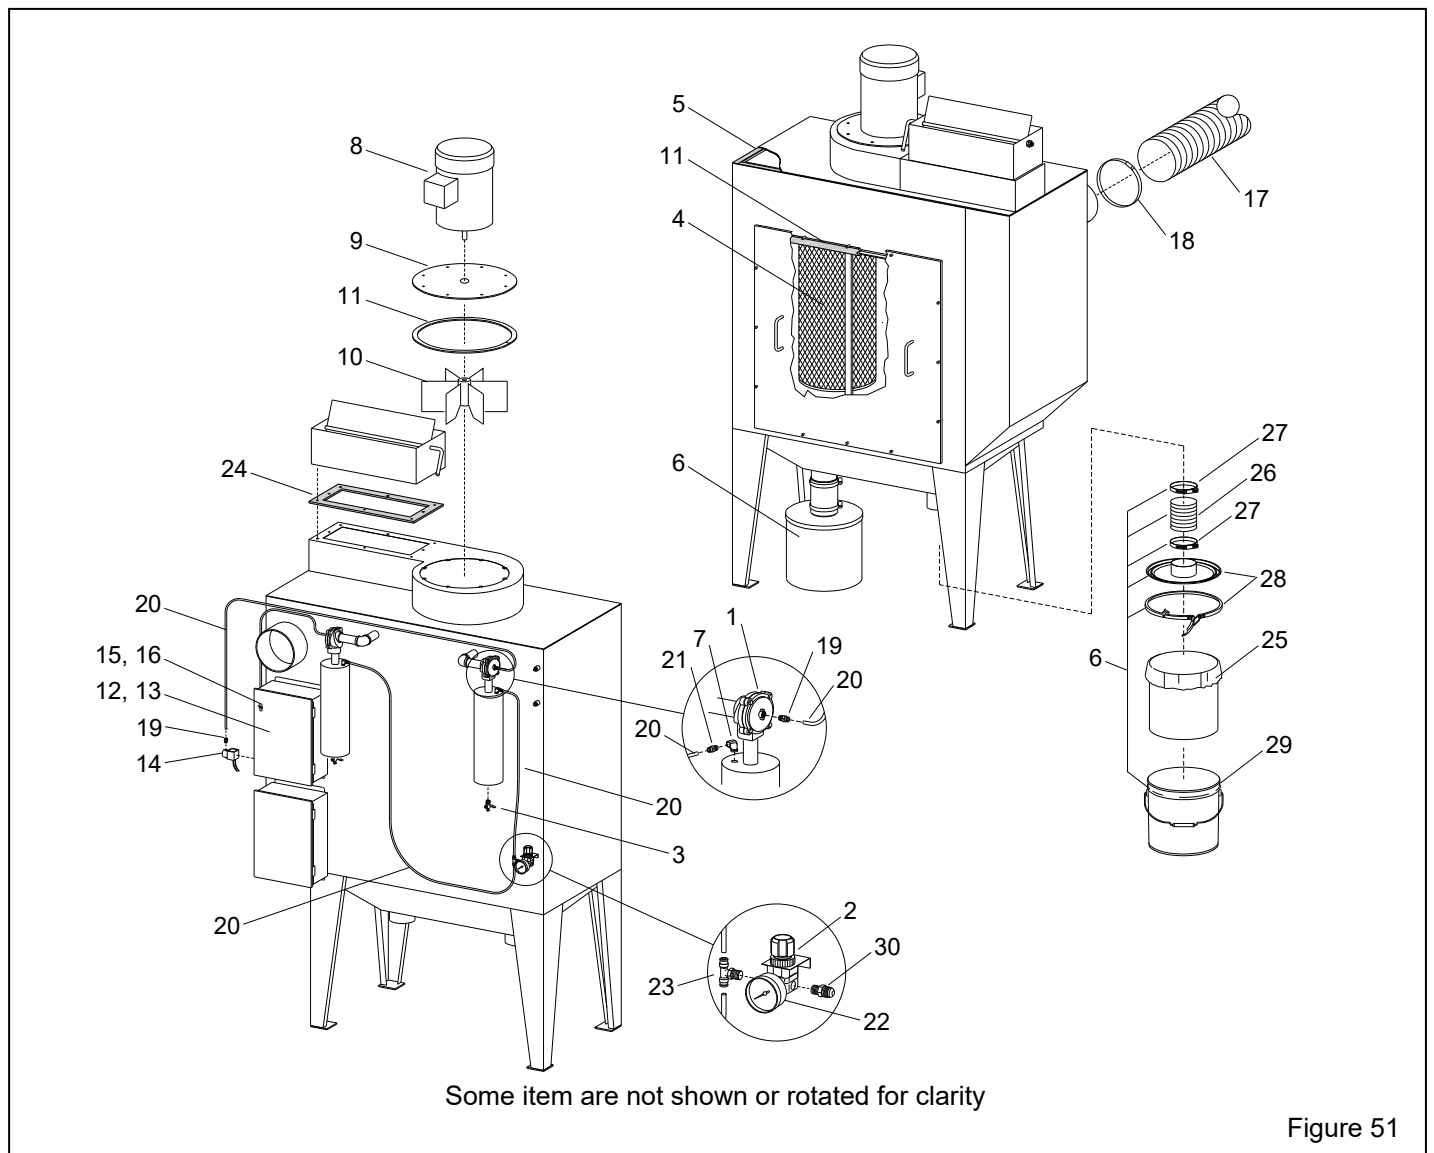

Figure 51
9.10 Dust Collector – Figure 51